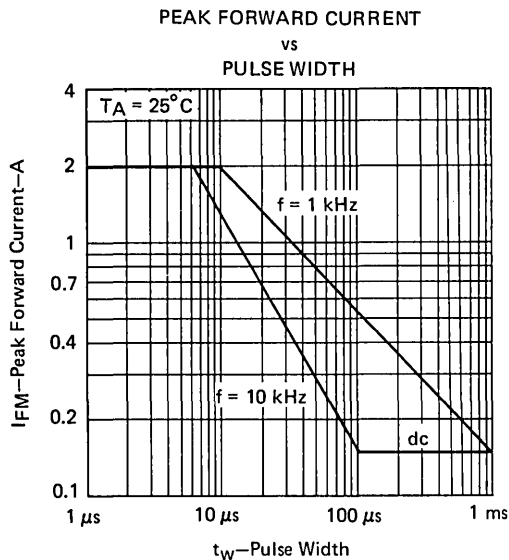

FIGURE 1
2. This value applies for $t_W < 10 \mu\text{s}$, $f < 1 \text{ kHz}$. See Figure 1.